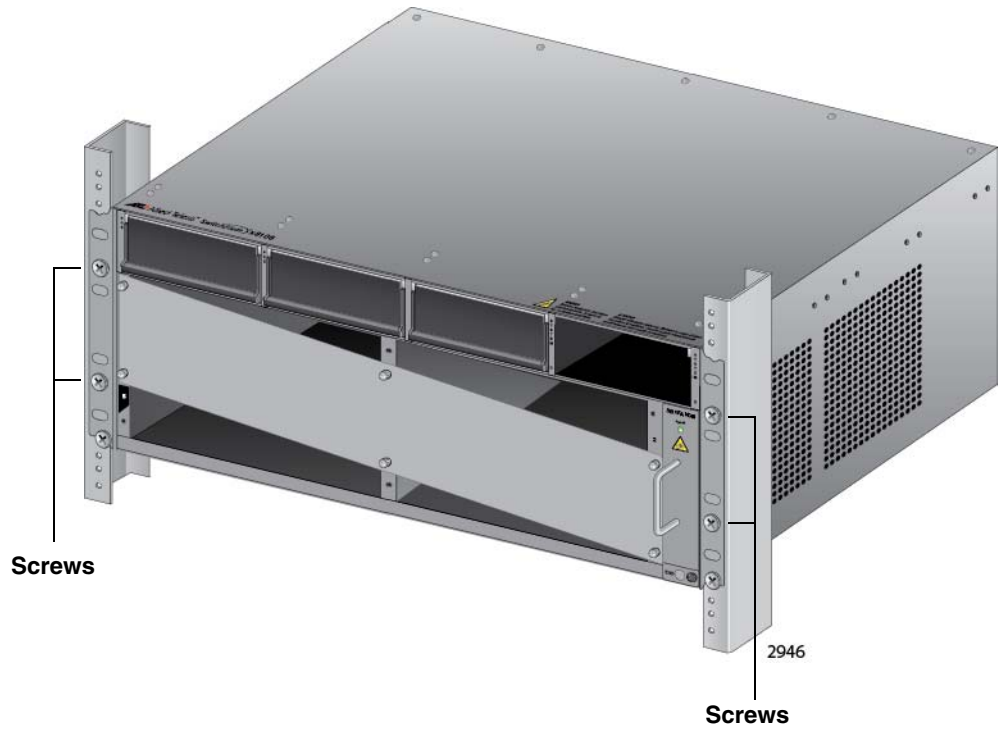

Figure 42. Installing the Rack Mount Screws
4. Install four rack mount screws (not provided) to secure the chassis to the equipment rack, as shown in Figure 42 on page 114.